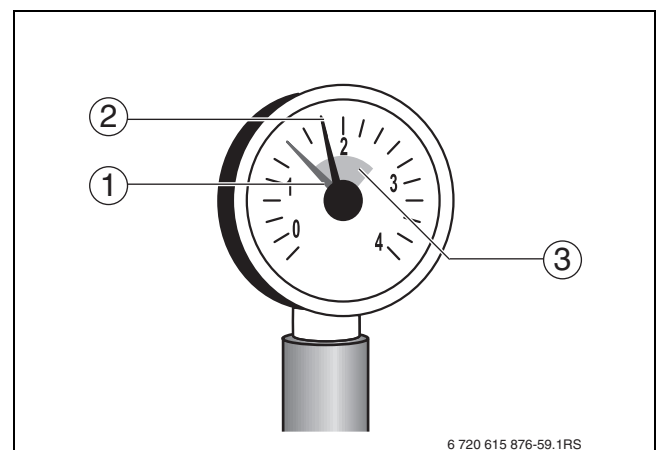

Fig. 10 Pressure gauge for sealed unvented systems
- ▶ Top up with water if the operating pressure has fallen as a result of the venting process (see setting for red needle on the pressure gauge → Fig. 10, page 14).